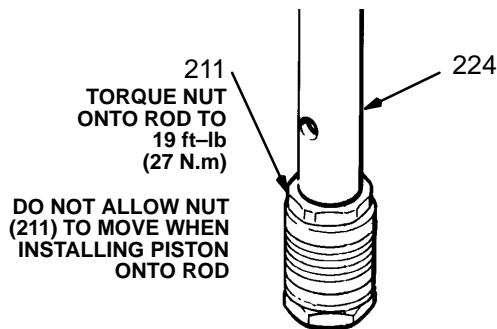

Fig 35-2
- Use a wrench to **CAREFULLY** tighten the nut (211) onto the piston rod to 19 ft-lbs (25 N.m). Refer to Fig 35-2.